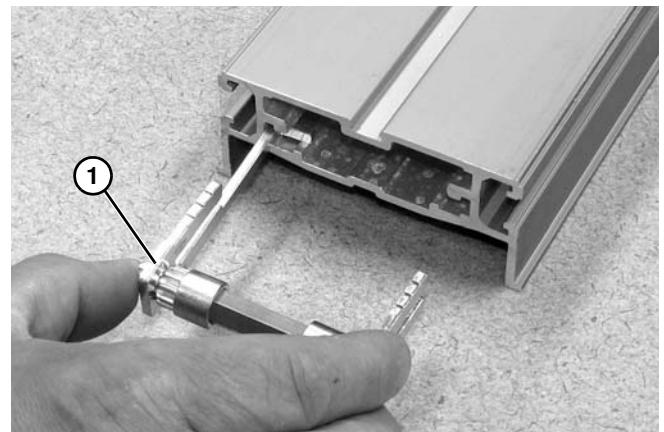

Figure 146
7. Insert pinion assembly (**Figure 146, item 1**) into conveyor frame.